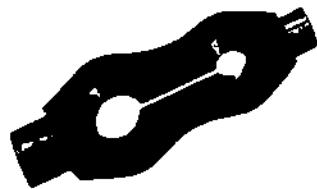

Figure 1-69. Copper Tubing Cleaning Tool
b) Figures 1-69 to 1-71 show some of the tools and equipment for cleaning copper tubing and fittings.
Figure 1-69 shows a hand cleaner for NPS $\frac{1}{2}$ and NPS $\frac{3}{4}$ copper tubing. It is made of washable rubber impregnated with abrasive material.